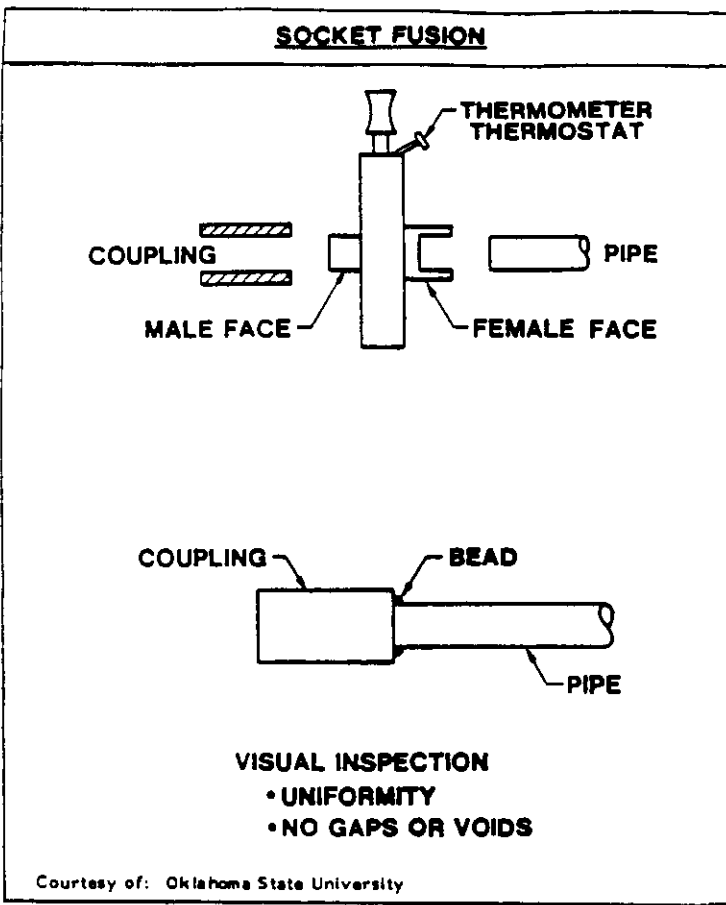

FIGURE 15
**SOCKET FUSION JOINING**--In the socket fusion method, the two pipe ends are joined by fusing each pipe end to a socket fitting (see Figure 15). This requires two heat fusion procedures for each joint.